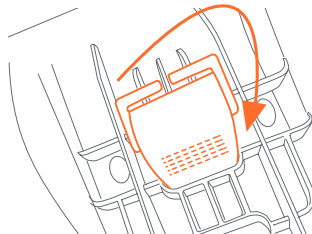

Fig. 33-4
4. Thread the sewn anchor stamping from the bottom of shell thru the middle slot for storage. This storage is so that the sewn anchor will not interfere with function or cause a mis-latch with shell and base when the "low birth weight" positioner stamping is used (Fig. 33-4).